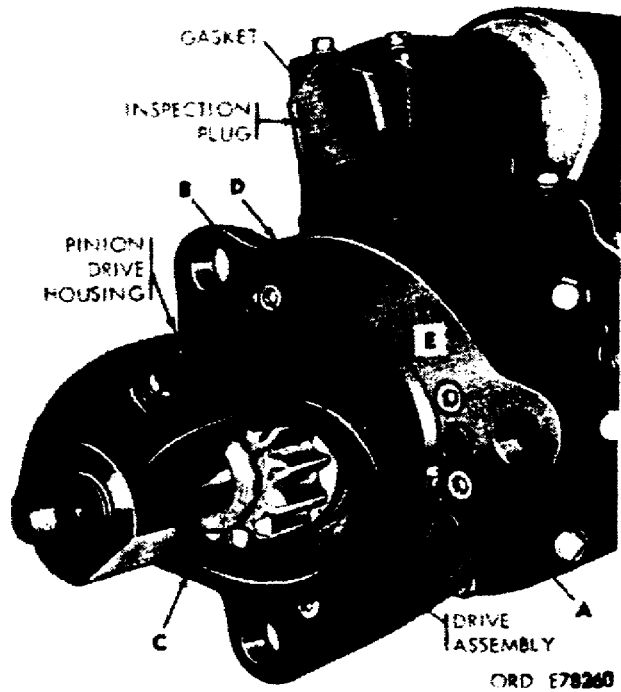
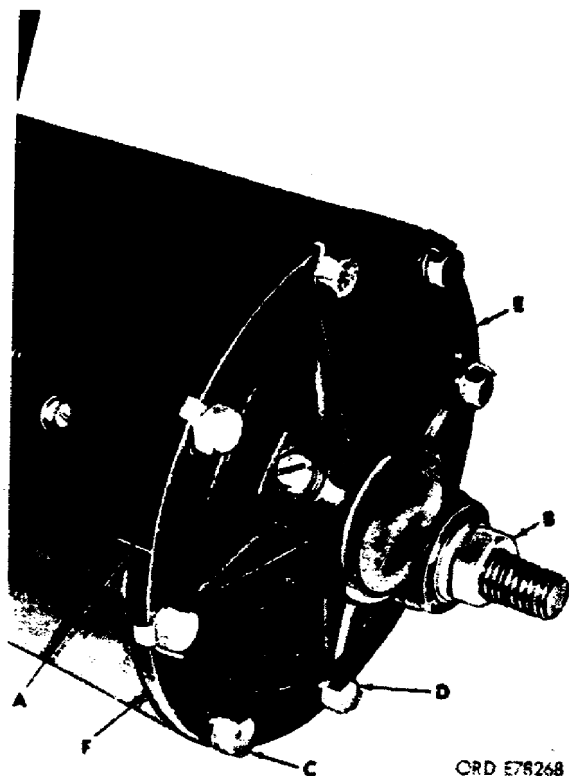

Figure 9. Pinion housing.
Figure 17. Commutator end head assembly.
(1) The position of the pinion housing with respect to the intermediate housing should be noted, so that they may be reassembled as they came apart. Therefore, it is a normal procedure to scribe a mark on the pinion housing and the intermediate housing to locate the relative position at assembly.
(2) Remove the six socket-head capscrews (B) (fig 9). This allows the pinion housing to be removed from the intermediate housing with the attached gaskets. The thrust washer (E) is loose so it should be removed from the armature shaft.
f. Before removing the commutator end head assembly, scribe a mark on the end head to locate the relative position (fig 17).
(1) Next free the terminal stud of the hex-nut and associated washers.
10. ASSEMBLY. In assembly it is important that the reverse procedure of disassembly be followed. A thread sealer should be applied to the pole shoe screws, pipe plugs, and solenoid relay mounting screws before assembly. The bronze bearing bushings have oiler holes; these holes must be aligned with the oiler holes in the pinion drive housing (fig 9), intermediate housing (fig 15), and the commutator end head (fig 17).